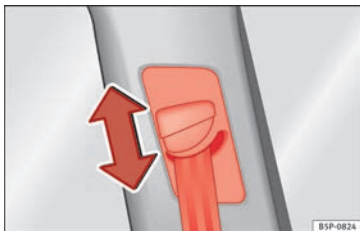

Fig. 12 Location of the belt height adjuster.
- Press the upper part of the shoulder belt guide and hold it in this position » **Fig. 12**.